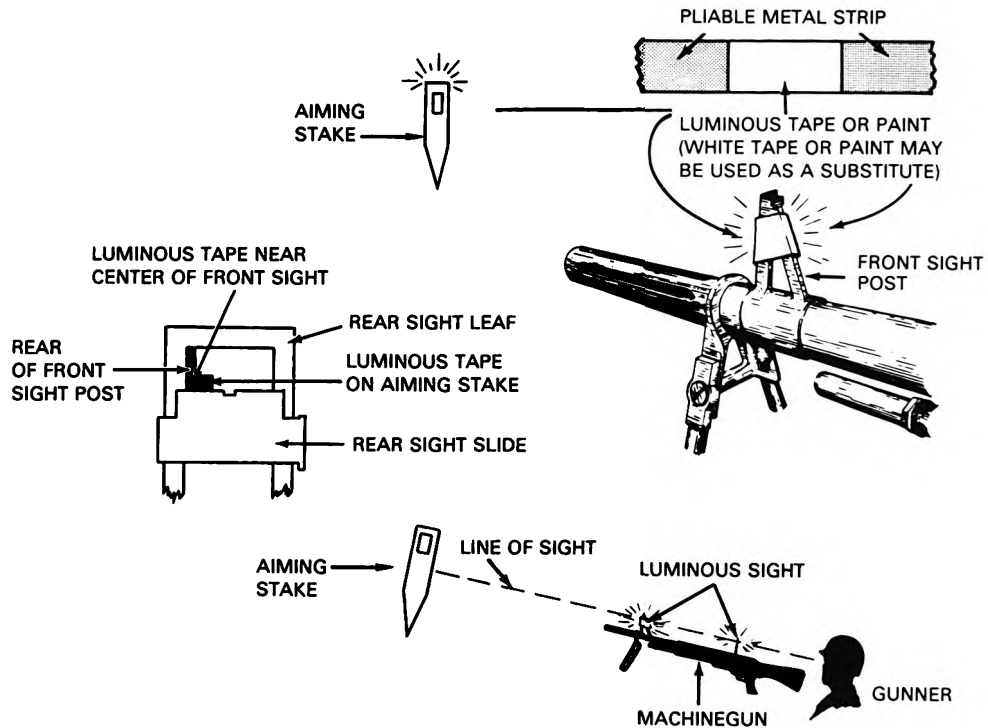

Figure 1.
1. Using the aiming stake technique (figure 1), use the following procedure:
- b. Raise the rear sight slide to its uppermost position in the rear sight leaf and place a strip of luminous tape at least halfway up the rear of the front sight post (figure 1).
- d. The gunner sighting the desired target area directs the assistant gunner to align the stake and drive it into the ground in such a way that the two pieces of luminous material are adjacent (aligned for direction) and top edges of both pieces of material are level (aligned for elevation) (figure 1).